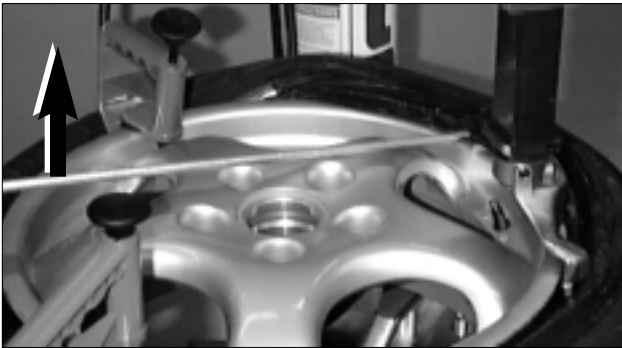

Figure 35 - Use Hooked End of Bead Lifting Tool
- On extremely tight tire and wheel combinations, it may be necessary to use the hooked end of the bead lifting tool to flip the tire over the rim flange (Figure 35).